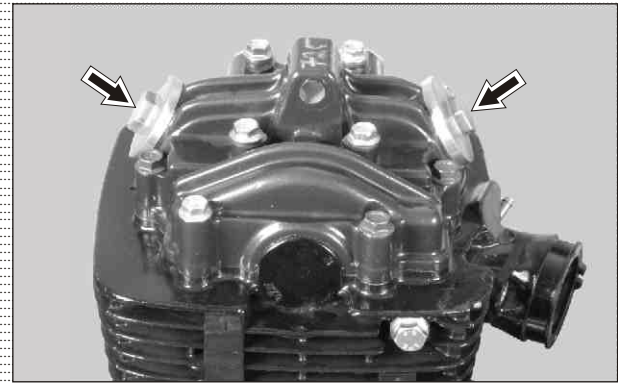

Fig. 3.70
- Remove both the cap inspection hole along with 'O' ring. (Fig. 3.70)